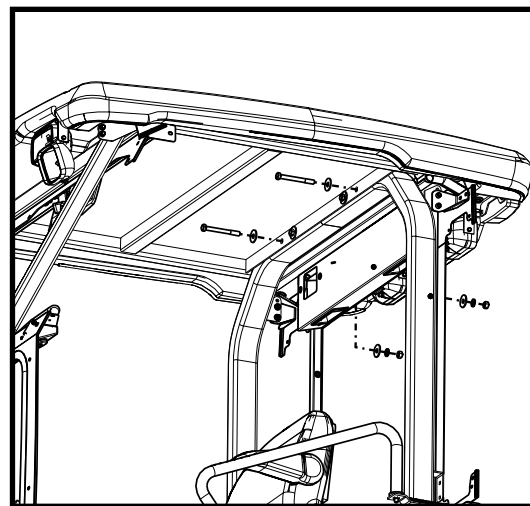

Figure 4.1: Fasten Rear Panel
- 4.1 Remove and retain the outer most M12 nut, lock washer, and flat washer from the upper front ROPS, just under the canopy (see Figure 4.1). Push the end of the bolt flush with the OEM side frame bracket, but do not remove. Repeat for the other side.
- 4.2 With assistance, place the rear panel against the ROPS per Figure 4.1 and push the M12 ROPS bolts through the holes in the rear panel. Secure with the flat washer, lock washer, and M12 nut removed in step 4.1. Leave loose.